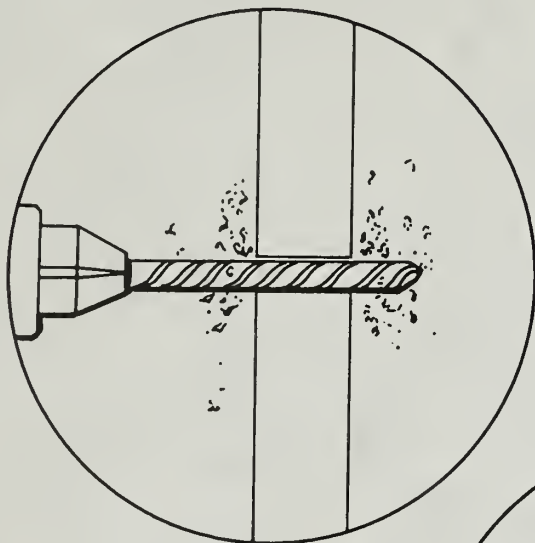

Fig. 5
**Toggle bolts.** (Fig. 5) Drill a hole in the plaster large enough for the folded toggle to go through. Remove toggle. Put bolt through towel bar or whatever you are hanging. Replace toggle. Push toggle through the wall and tighten with a screwdriver.